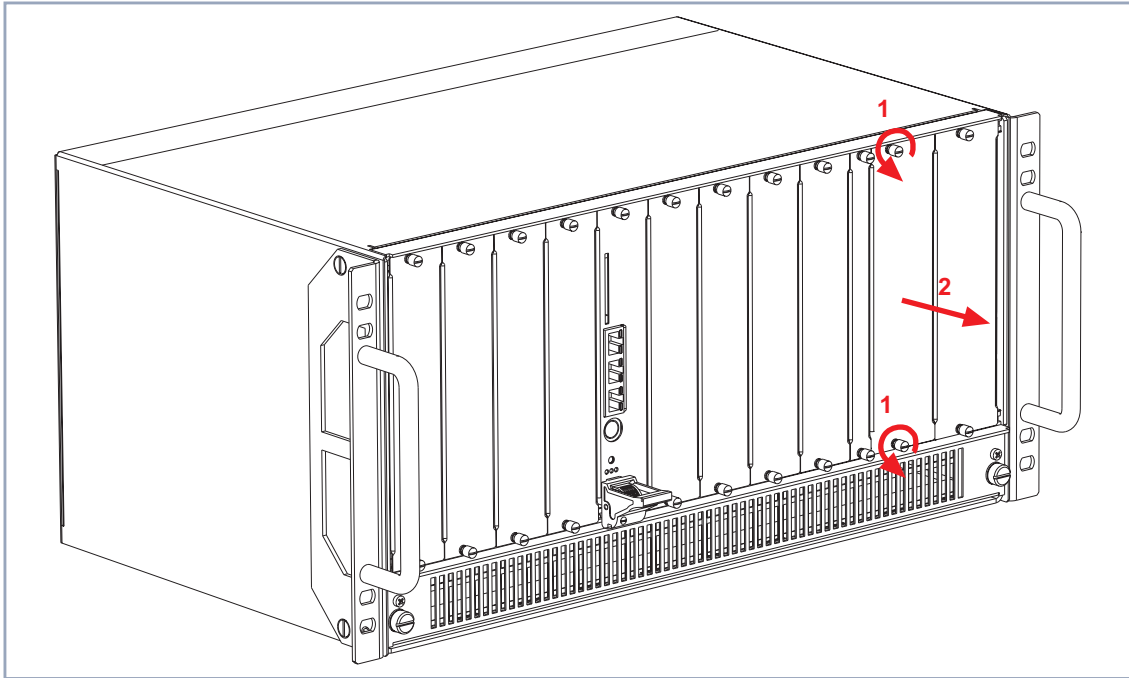

Figure 4-15: Removing the power supply unit dummy front panel
- Loosen the screws of the power supply dummy front panel as shown in figure 4-15, page 56, arrow no. 1.
- Remove the dummy front panel as shown in figure 4-15, page 56, arrow no. 2.